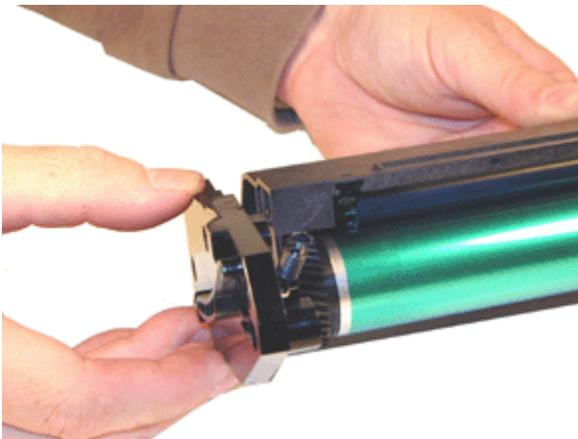

FIGURE 41
37. Install the spring on the main end cap, install the end cap onto the waste chamber. See Figure 41